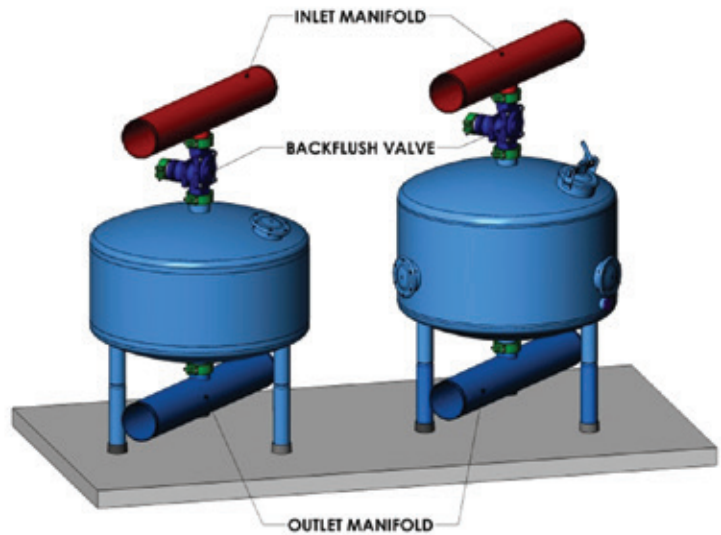

FIGURE 2
- The inlet manifold will be at the top of the backflush valve and the outlet manifold will be below the filters. (See Figure 2)